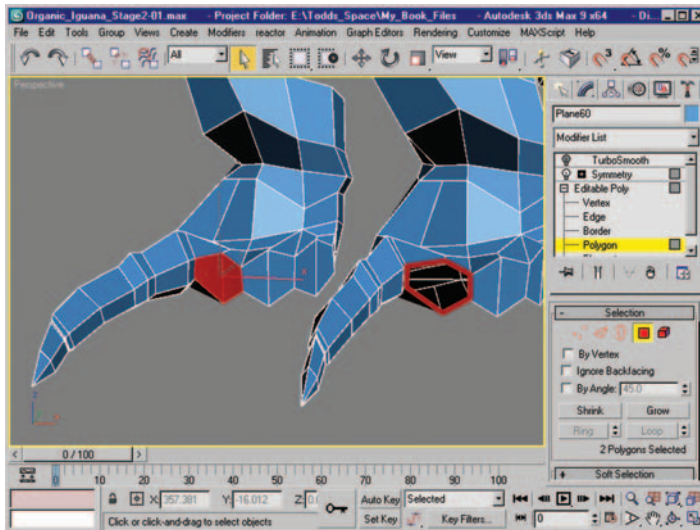

Figure 9.72 Polygon selection and result after deleting two polygons.
34. Select the two polygons seen in Figure 9.72 and delete them.